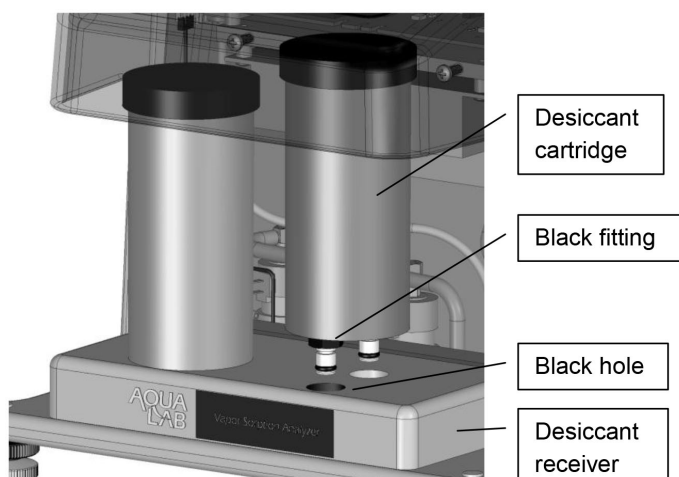

Figure 7: Desiccant Installation
4. Install the two desiccant tubes in the front of the instrument. Figure 7 shows the proper method of installing Desiccant tubes. Before insertion, make sure to firmly seal the desiccant tube lid onto the desiccant tube and remove the black vinyl covers from the air fittings. Lift the desiccant tube into the area above the desiccant receiver and then insert the fittings into the mating holes. Be sure to place the black fitting into the corresponding black hole. Once in place, the desiccant tube is sealed for flow purposes even if it may feel loose.